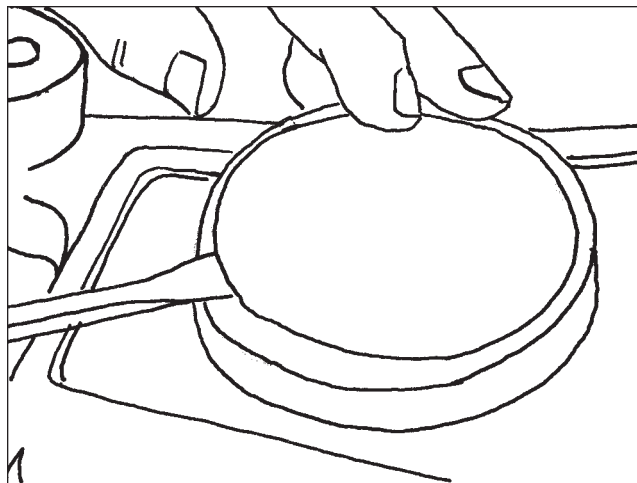

Figure 86
3. Remove the frame side dirt shield using a gasket scraper. Some steering gears may have a screw-in dust shield. Use 1/4" allen wrench to remove screw-in dirt shields. (Figure 86).